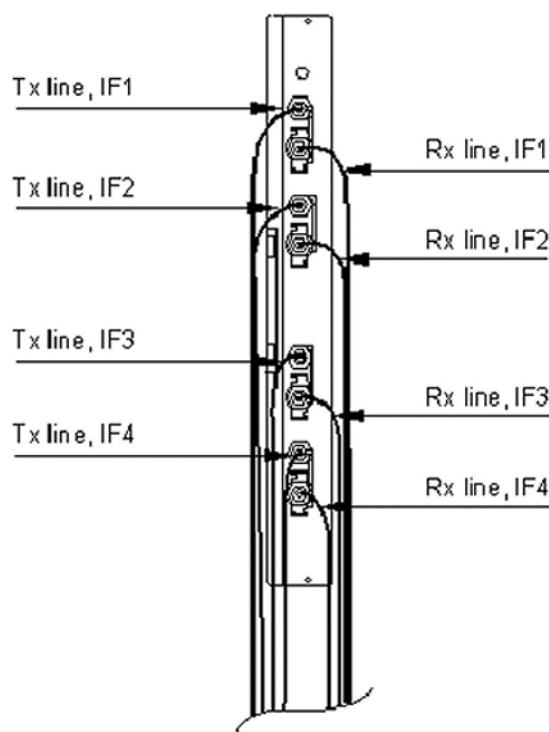

Figure 29 : Cabling of FXC E1 unit
The FXC E1 unit has four pairs of 75 ohm connectors (type BT-43). Each pair forms a transmission interface (IF). The upper connector is always the Tx connector of any given transmission interface. The lower connector is always the Rx connector of any given transmission interface. See Figure 29.